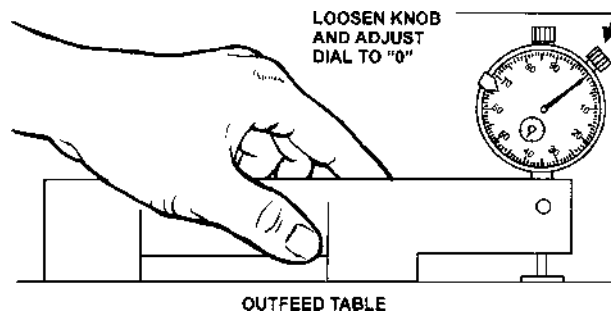

FIGURE 17
7. If you have a Quick-Set Knife Gauge (available from POWERMATIC), place it on the outfeed table and "0" the indicator as shown in Figure 17.
9. If the indicator reads outside of this range, loosen the setscrew in the side of the gauge and adjust the indicator so that it will read within the range above. Zero the indicator as shown in Figure 17. Repeat this process until indicator reads within the .025 to .050 range. Always zero the indicator (as shown in Figure 17) before each use.